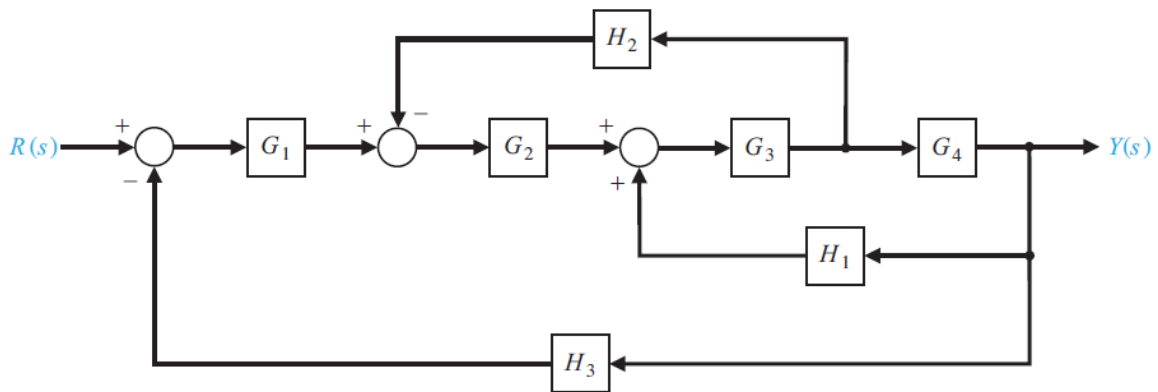

Figure 1. Example for the Experiment-2
- 6.Use the computer program (Matlab or Scilab) to obtain transfer function for the system in Figure 1.
1. Consider the system given in preliminary work Figure 1. Make the simulation for the system and obtain the transfer function. Write the poles and zeros of the transfer function in A1. (Assume all inputs are step function)
3. Consider the system given in preliminary work Figure 1. Make the simulation for the system and obtain the transfer function. Write the poles and zeros of the transfer function in A3.
5. What is the steady state error for the figures in (2) and (4).